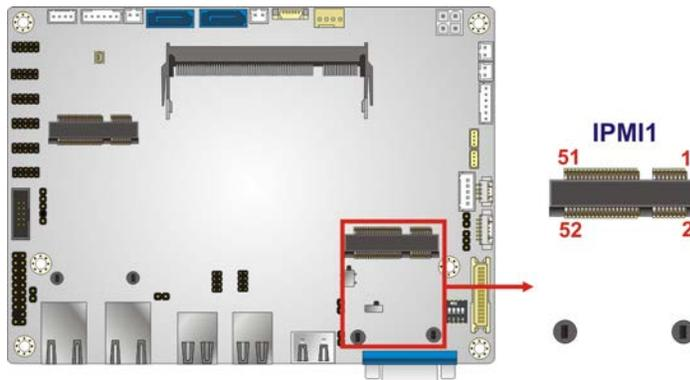

Figure 3-12: iRIS-1010 Module Slot Location
- CN Location:** See **Figure 3-12**